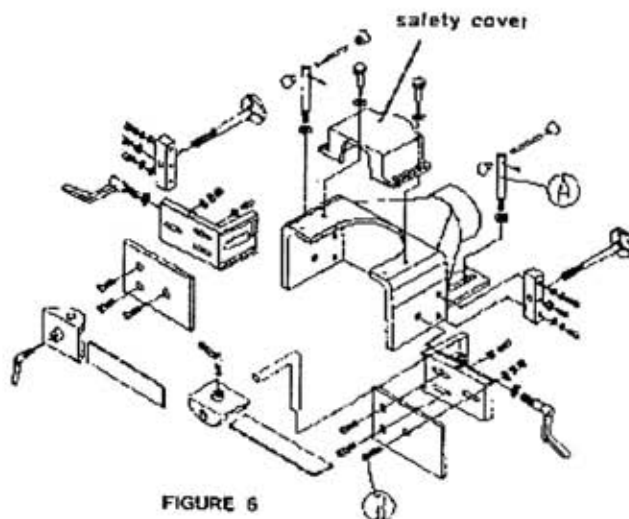

FIGURE 6
1. Check the two mounting screws A, Figure 6 holding the fence assembly to the table and make sure they are tight.